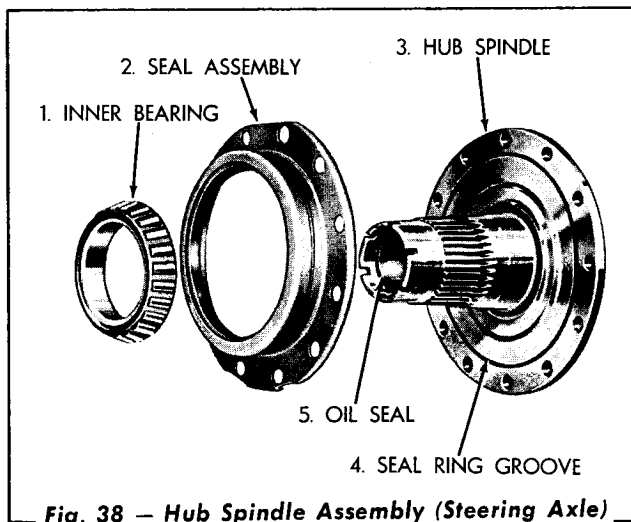

Fig. 38 - Hub Spindle Assembly (Steering Axle)
- b. Remove the inner bearing and the brake return springs (Figs. 38 and 39).
- d. Remove the oil seal assembly by lifting the retainer from the stud nuts and the seal ring located behind the retainer in a recess in the hub spindle (Fig. 38).